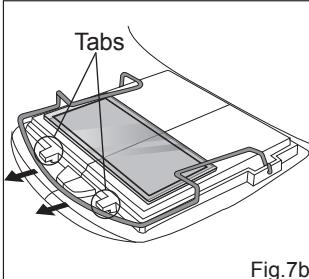

Fig.7b
- ③ Pull the holding spring towards yourself in order to lock it by the tabs on the helmet (see Fig.7b).